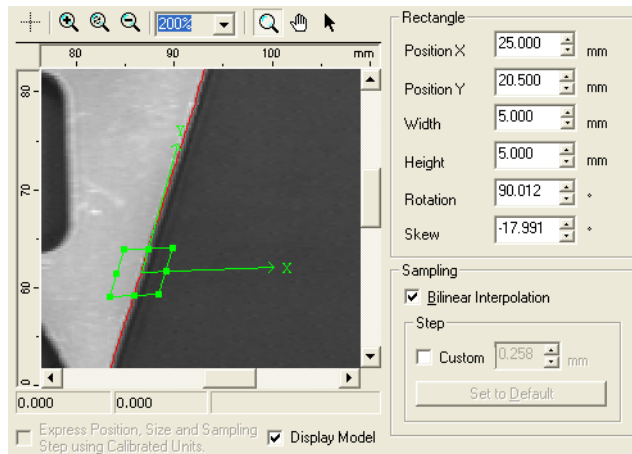

Figure 43 Adjusting Rectangle for the Hook's Right Edge
8. Place the Rectangle on the part as shown in Figure 43. Click the arrow of the X-axis and drag it to adjust the rotation to 90 degrees. Click the center of the Rectangle and drag it into position. Since the edge to be located is not orthogonal to the tool's X-axis, adjust the skew by clicking and dragging the arrow of the Y-axis to make it parallel to the right edge of the part. Fine-tune the position with the text boxes if needed. Once the Rectangle is placed, click **Execute**.